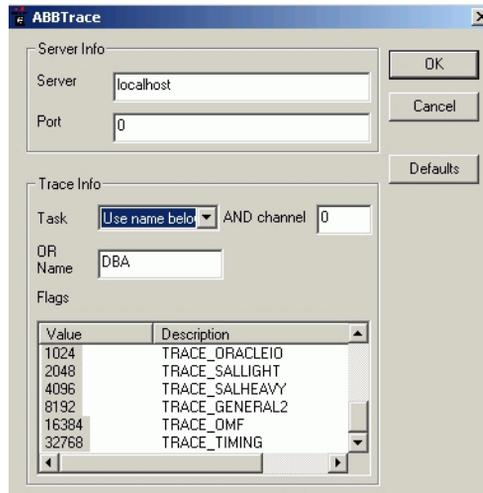

Figure 90. Trace Settings Dialog
4. Use this dialog to set up the Trace Monitor (reference Figure 90):